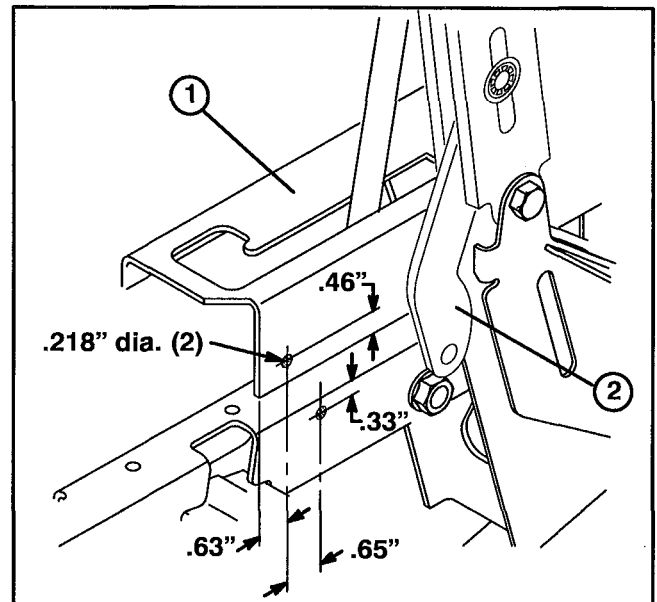

Figure 5
27. Using dimensions shown in figure 5, locate, mark and drill (2) .218" (7/32") dia. holes in vehicle console.